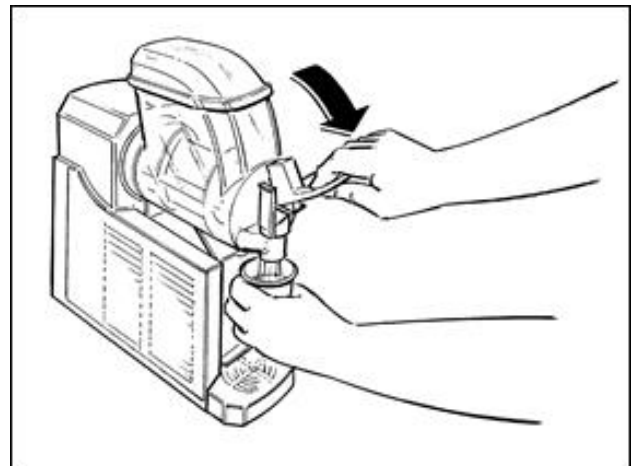

Fig. 56
- Once the desired product consistency is reached, to dispense product position a cup under the tap and lower the lever as shown in Fig. 56 .